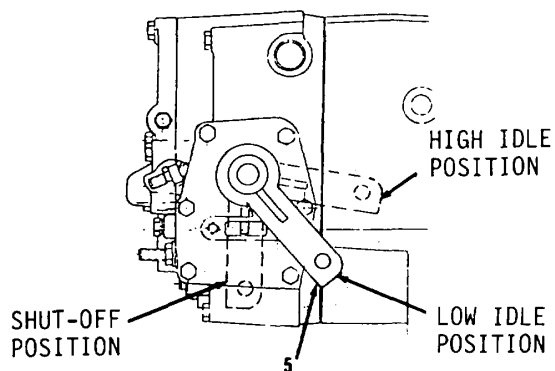

Figure 3-107.
4. Start engine in operator's compartment. Run until normal operating temperature is reached. See warning. If engine runs out of control, place steel plate over air inlet of turbocharger if governor control lever (5, Figure 3-107) won't shut engine off.